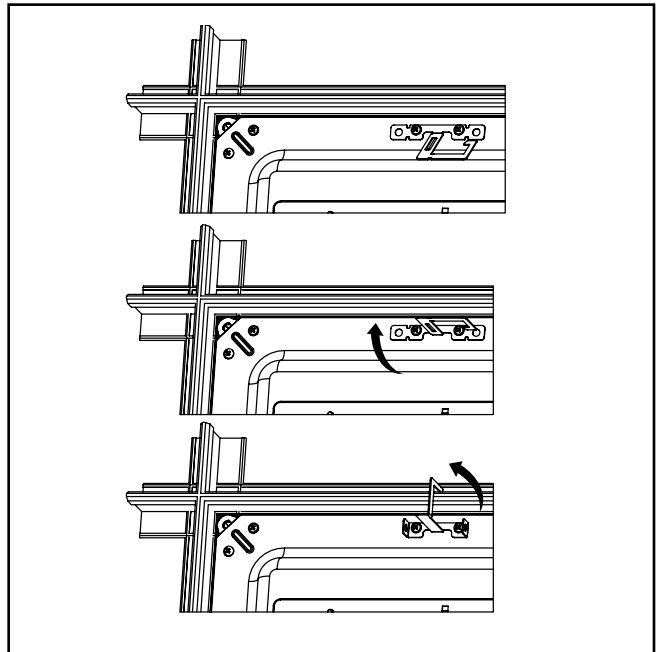

Figure 4.
6. Grid clips are provided for additional retention to ceiling system. Orient 4 tabs on back of fixture over T-GRID by bending tabs up 90 degrees perpendicular to back of fixture. Next bend tabs 90 degrees towards T-GRID frame. For use as earthquake clips, drive a screw (provided by others) through the grid clip hole and into the T-grid as shown (Fig. 4).